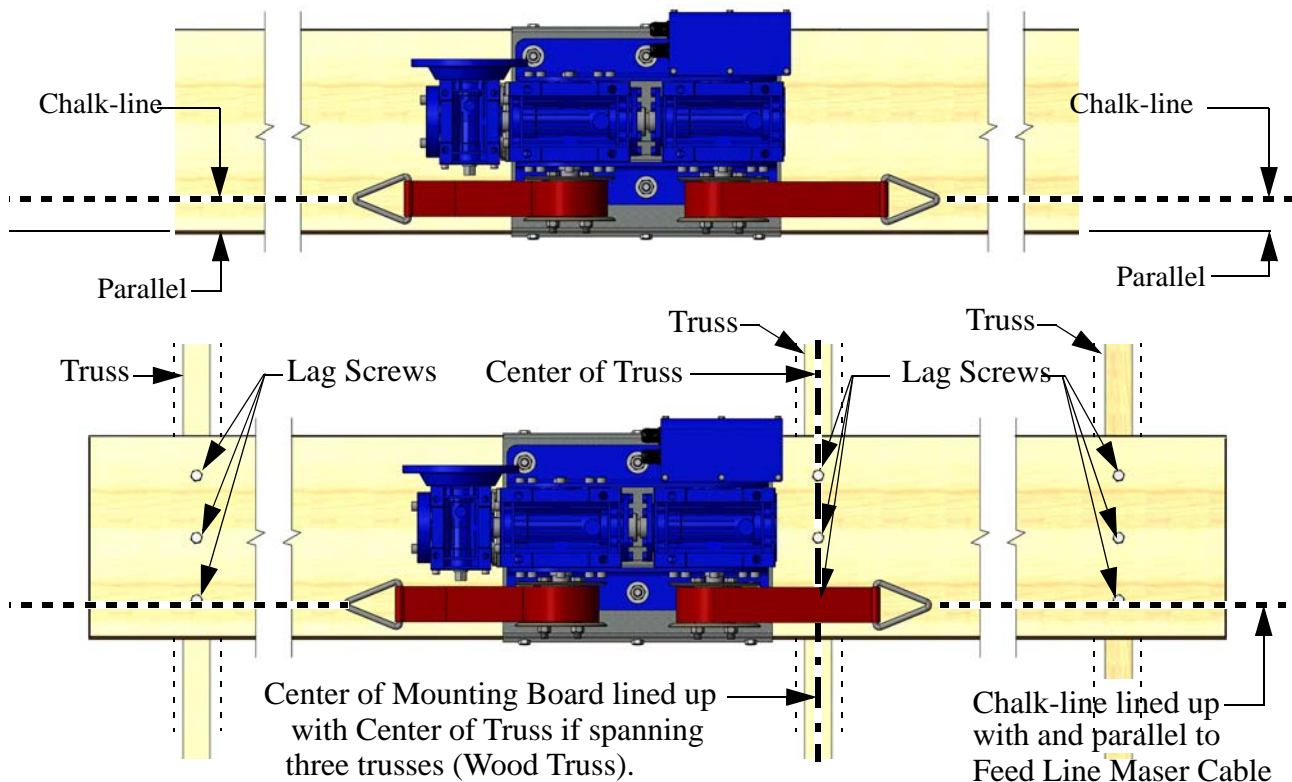

Figure 10. Attaching Mounting Board to the Trusses
1. With the Mounting Board still on the floor Mark a Chalk-line parallel to the Mounting Board lined up with the center of the Straps (See Figure 10.).